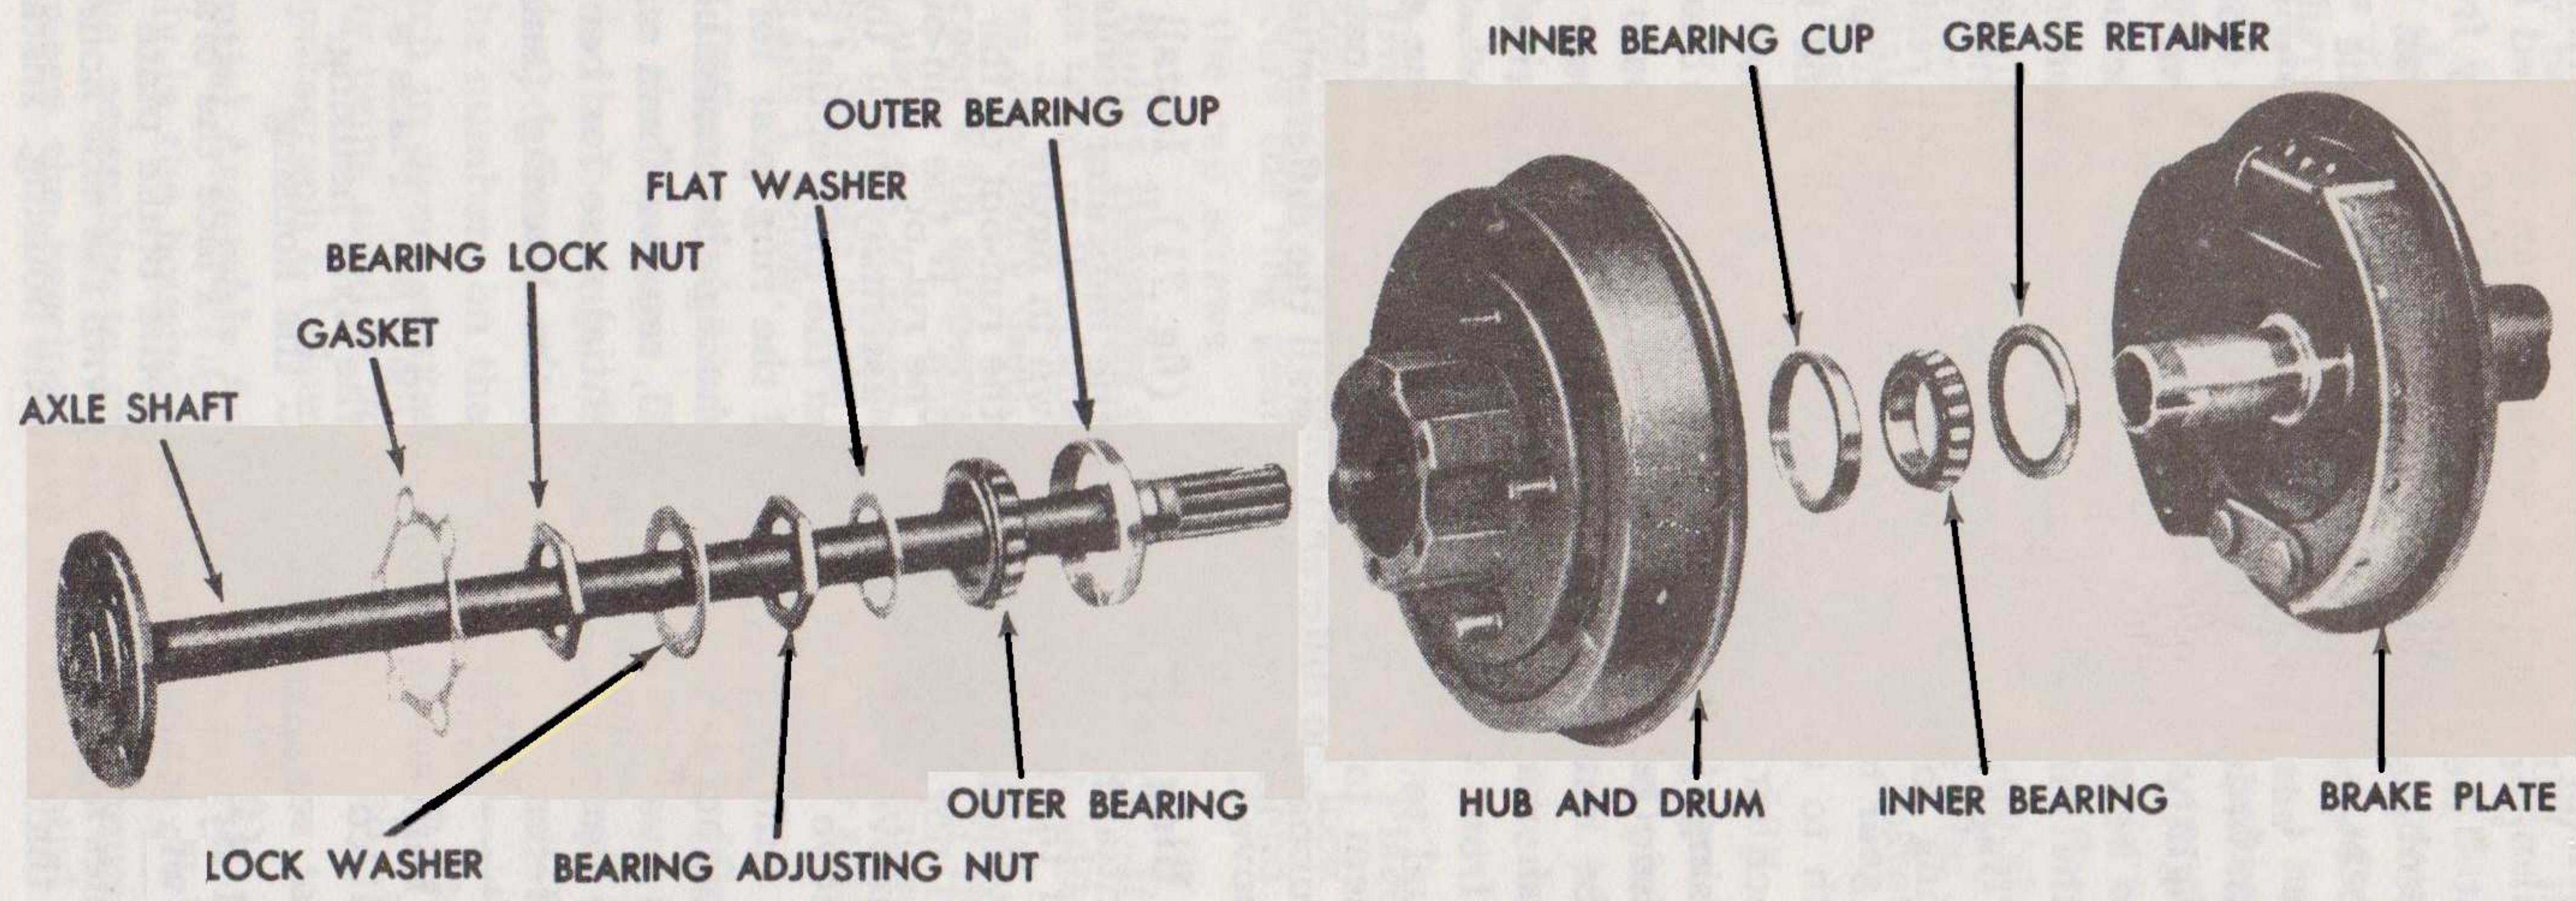

Figure 82 — Axle Shaft — Exploded View
- b. **Remove Axle Shafts (fig. 82).** Remove the six cap screws that secure the drive flange to the hub. Install two of the cap screws that were removed from the drive flange in the two threaded holes on the drive flange. Draw the cap screws down until the drive flange is free from the hub. Remove the axle shafts from the axle housing.
- c. **Remove Hub and Drum Assembly (fig. 82).** Bend the ears of the flat washer off the bearing lock nut. Remove the bearing lock nut and bearing adjusting nut off the housing, using the wrench furnished with the vehicle. Slide the hub and drum assembly with the wheel bearings off the housing.
- d. **Remove Brake Plate (fig. 82).** Disconnect the hydraulic brake line at the brake plate. Remove the six cap screws that secure the brake plate to the axle housing. Remove the brake plate from the axle housing.
(4) **AXLE SHAFT** (fig. 82). Replace the axle shafts if they are bent or have any worn or broken splines.
m. Install Brake Plate (fig. 82). Place the brake plate on the housing, with the brake cylinder on the brake plate toward the top. Line up the holes in the brake plate with the axle housing. Install the six cap screws that secure it to the axle housing. Install the hydraulic
n. Install Hub and Brake Drum (fig. 82). Pack the wheel bearings with the specified lubricant. Install the inner bearing in place in the hub and install the hub and brake drum on the housing. Install the outer wheel bearing and thrust washers. Install and tighten the bearing adjusting nut until the brake drum binds, then back it off one-sixteenth turn. This will give the correct wheel bearing adjustment. Install the lock washer and lock nut. Bend the ears of the lock washer over the lock nut.
o. Install Axle Shafts (fig. 82). Insert the axle shaft in the axle housing. Turn the axle shaft to line up the splines on the axle shaft with the gear in the differential. Install the six cap screws that secure the drive flange to the hub.